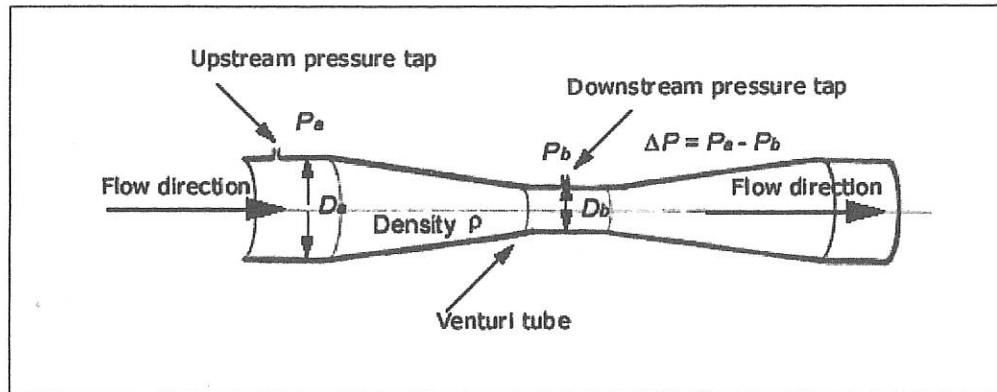

Figure A3 (c) / Rajah A3 (c)
- c. Operationalize the venturi tubes in flow meter that is used in industry as shown in Figure A3 (c) below.